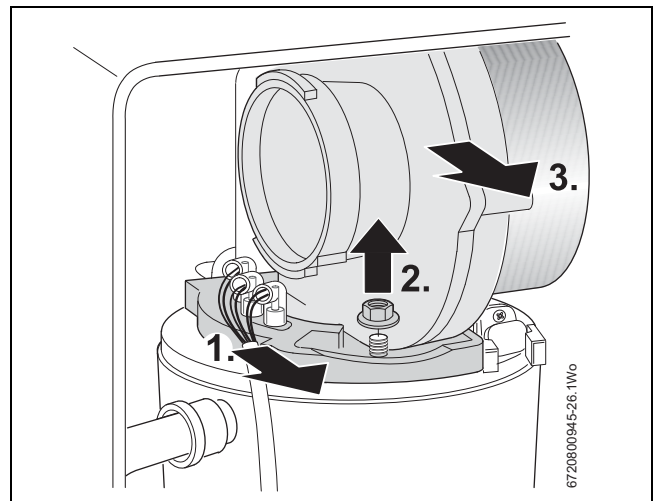

Fig. 68 Fan removal
1. Disconnect the power cable and earth from the fan and the ignition and flame monitoring electrode leads, → Fig. 68.